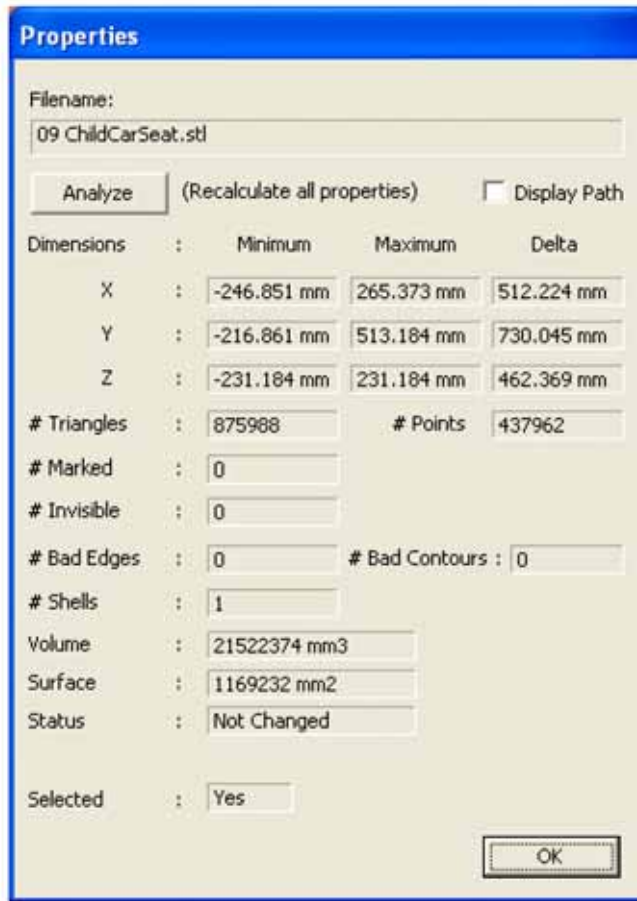

Figure 81: Model properties dialog
- The program will display the information shown in Figure 81.